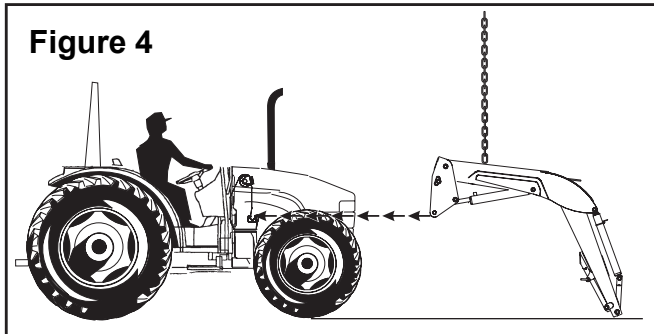

Figure 4
7. Secure a hoist strap around the boom arm assembly or secure with a chain hook into hole (M) on underside of boom arm (see figure 2). If using a strap, the strap should be located around the boom arm near the same location as the chain hook hole, similar to figure 4. Slowly raise loader with overhead hoist until loader upright will clear tractor tires (see figure 4).